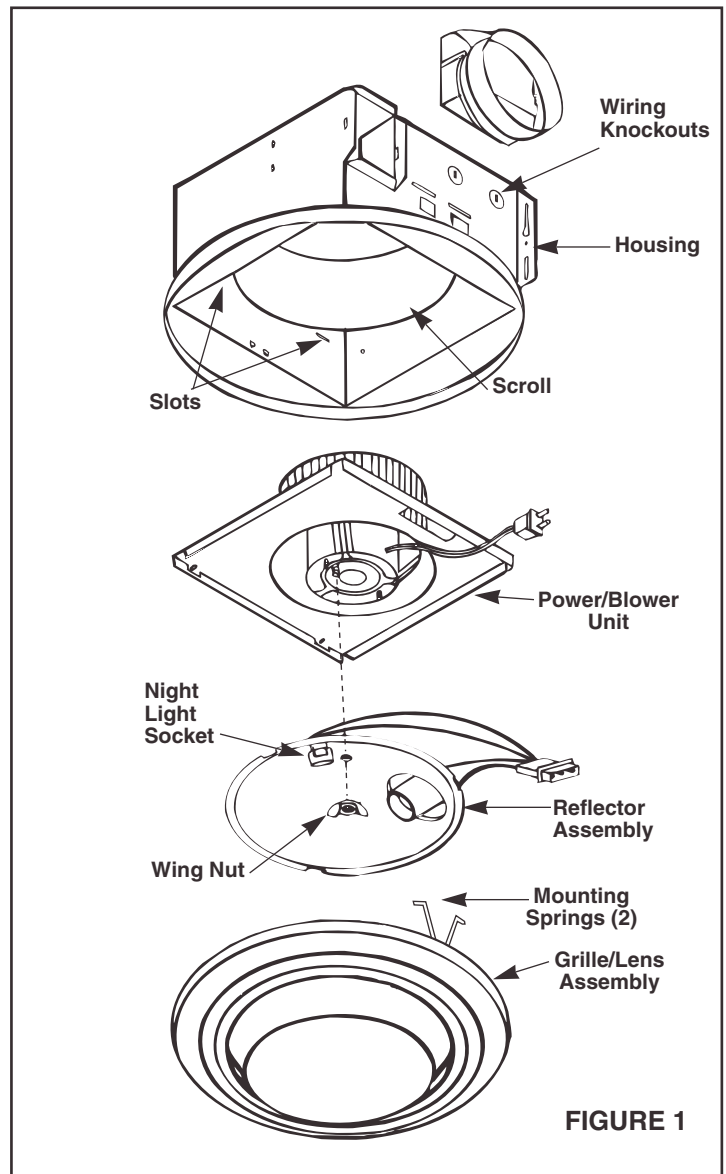

FIGURE 1
1. Refer to Figure 1. Remove power unit/blower assembly from housing.
1. Refer to Figure 1. Place duct collar over flanges at discharge opening of fan. Secure collar by snapping tabs into slots in flanges.
1. Refer to Figure 1. Place power/blower unit into housing so that mounting plate's tabs insert into slots in housing.